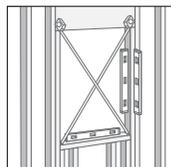

fig. 2
- Make sure the walls are plumb and not twisted. Check the rough opening for square by measuring diagonally from corner to corner in both directions. Measurements cannot differ from each other by more than 1/4". **(fig. 2)**
- Check the sill for level and make sure jambs are plumb. **(fig. 2)**